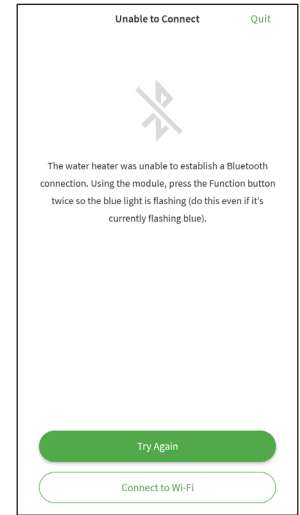

Figure 165 - Unable to Connect
1. Deactivate pairing mode at the control assembly. To manually deactivate pairing mode, press and hold the Bluetooth button for three (3) seconds. The control assembly will beep once and the LED indicator will turn off.
3. Select the “Try Again” button located at the bottom of the screen (Figure 165).